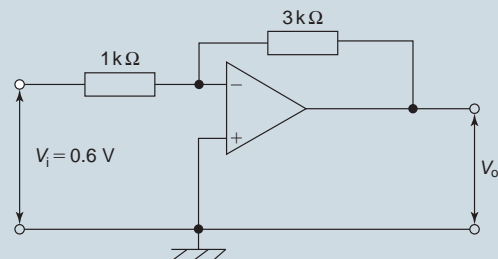

Figure 21.26
4. The output voltage, V_o , in the amplifier shown in Fig. 21.26 is:
5. The $3\text{ k}\Omega$ resistor in Fig. 21.26 is replaced by one of value $0.1\text{ M}\Omega$. If the op amp has an input bias current of 80 nA , the output offset voltage is: